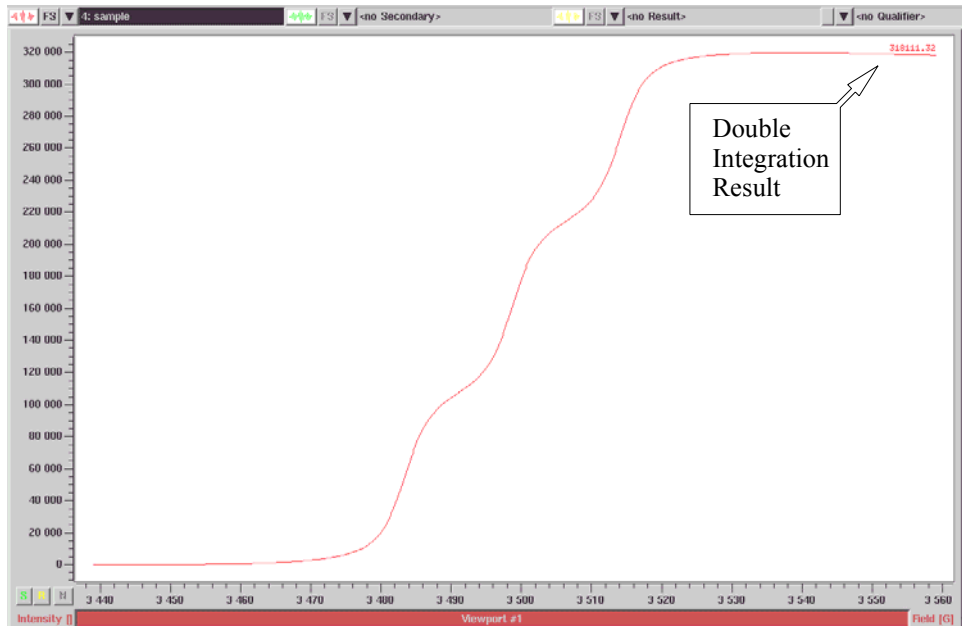

Figure 9-4 Result of auto post-processing.
5. **Run auto post-processing.** Create an experiment and set up the parameters. Click **Run** to acquire the spectrum. Upon completion of the acquisition, Xepr executes the auto post-processing routine. Figure 9-4 shows the result of the double integration of the raw spectrum. The original spectrum and the processed dataset have been saved and stored as **AutoPostProcess_R** and **AutoPostProcess_P** files respectively.